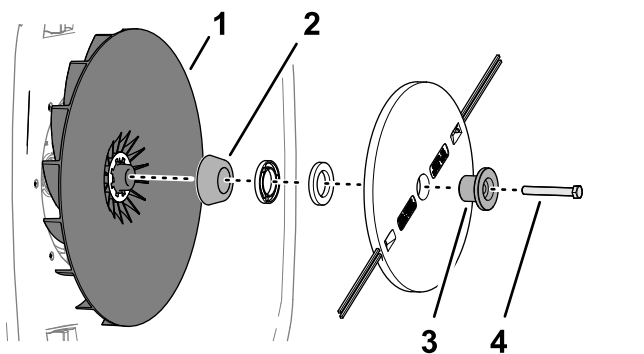

Figure 30
1. Assemble the retainer, cutting disc, spacers, and conical spacer to the impeller with the bolt (Figure 30).